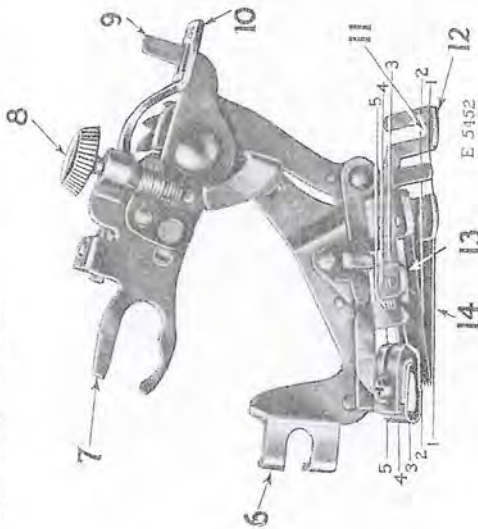
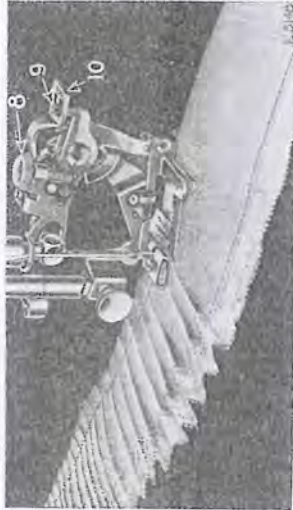

FIG. 35. THE RUFFLER AND ITS PARTS
FIG. 40
Lines 1, 2, 3, 4 and 5 shown in Fig. 35 indicate where the material is to be placed for various operations, as follows:
Refer to Fig. 35 when inserting the material in the ruffler.
(SEE NOS. IN FIG. 35)
Raise the needle bar to its highest point and remove the presser foot. Attach the ruffler foot to the presser bar by means of the thumb screw, at the same time placing the fork-arm astride the needle clamp as shown in Fig. 35.
enter the slot marked "1" in the adjusting lever (10) when the lever is released. The ruffling blade will then move forward and back once at every stitch. Insert the material to be ruffled between the two blue blades, following the line 2 in Fig. 35. Draw the material slightly back of the needle, lower the presser bar and commence to sew.
2, in Fig. 35. Place the garment to which the ruffle is to be attached, under the separator blade, following the line 1, in Fig. 35. Proceed the same as for plain gathering.
Insert the material to be ruffled between the two blue blades, following the line 2, in Fig. 35. Place the garment to which the ruffle is to be attached, under the separator blade, following the line 1, in Fig. 35. Place the material for the facing over the upper blue blade, as shown in Fig. 38, following the line 3, in Fig. 35. The facing may be straight or bias material. If the facing is to be on the right side of the garment, place the garment and
Insert the material to be ruffled between the two blue blades, following the line 2, in Fig. 35. This
The material for piping must measure about $\frac{1}{4}$ inch wide when folded in the centre and is usually cut on the bias. Place the piping material in the ruffler, following the line 4, in Fig. 35, with the folded edge of the piping to the right. The material to which the piping and ruffling are to be sewn should be folded on the edge and inserted in the ruffler, following the line 5, in Fig. 35.
Raise the adjusting lever (10, Fig. 40) and move it to the right so that the projection (9, Fig. 40)
will enter the slot marked "5" in the adjusting lever when the lever is released. The ruffling blade will then move forward and back once at every five stitches. Insert the material to be plaited between the two blue blades, following the line 2, in Fig. 35. The fullness of the plait is regulated by the adjusting screw (8, Fig. 40) and the length of stitch. To make a fuller plait, turn the adjusting screw (8) down, also lengthen the stitch. To make a finer plait, turn the adjusting screw (8) up, also shorten the stitch.